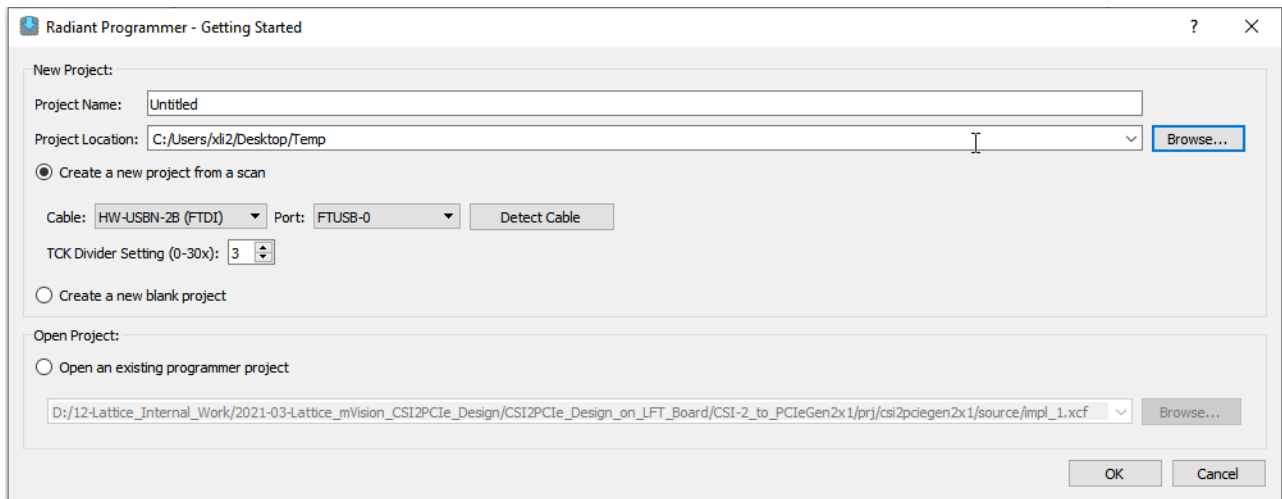

Figure 5.1. Getting Started Dialog in Lattice Radiant Programmer
5. The Radiant Programmer – Getting Started dialog box pops up (Figure 5.1). By default, the *Create a new project from a JTAG scan* option is selected. Check and confirm other settings are correctly reflected the real components connected. Click OK, if everything is correct.